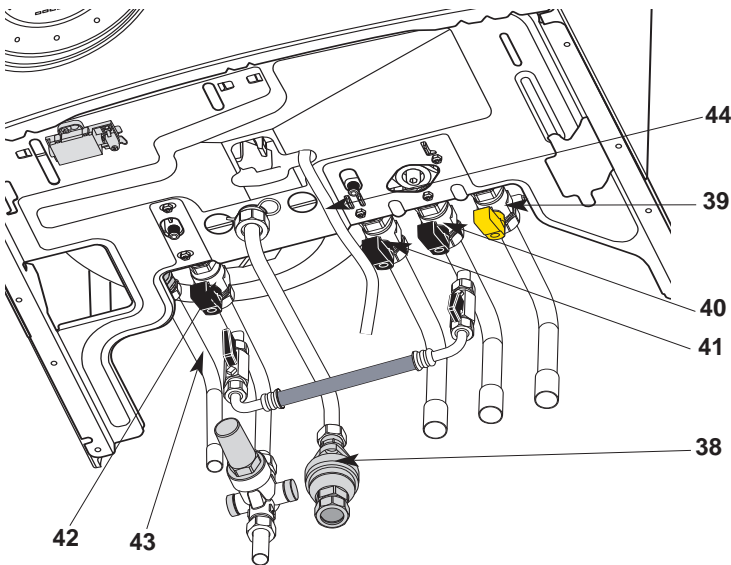

FIG. 10.2
10.6.2. Position the appliance on the hanging bracket and connect the connection kit to the boiler connections. (see also Sections 10.8 Gas Connections, 10.9 Water Connections & FIG.10.2).
The connection to the appliance is a 22mm copper tail located at the rear of the gas service cock (Fig. 10.2).